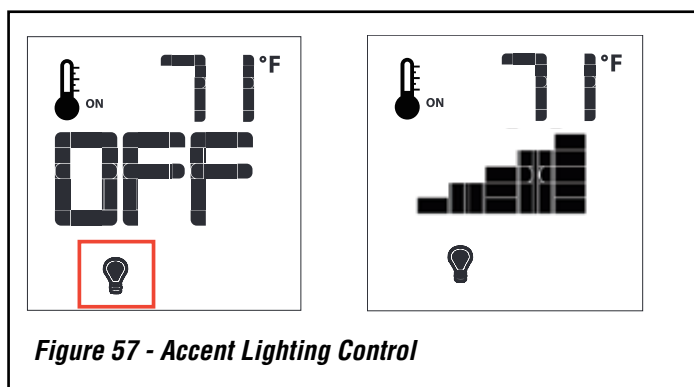

Figure 57 - Accent Lighting Control
The fireplace is equipped with warm white colored halogen accent lights. The lights can be controlled by the Proflame system. Light intensity can be adjusted through six (6) levels of brightness. To activate this function use the Mode Key to index the Light icon, see **Figure 57**.
1. Pressing the Up Arrow Key will turn the lights on. Each time you press the Down Arrow Key, the lights intensity will reduce by one step (**Figure 57**).